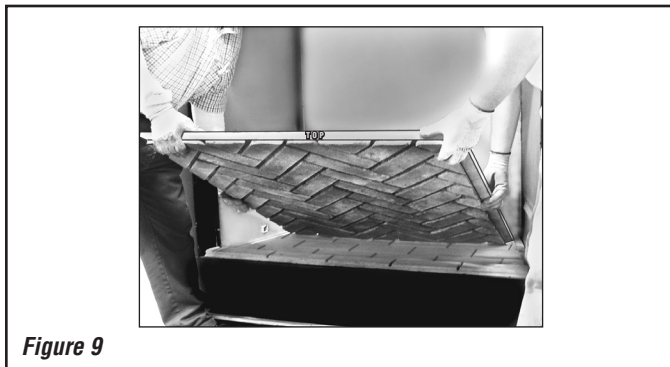

Figure 9
- 5.2. **Using at least two (2) people**, hold the rear panel by the side edges, with the **top edge up** (**Figure 9, below**).